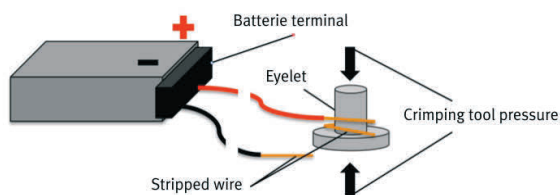

Figure 4: Winding the stripped ends of the battery connector wires around the eyelets and crimping
- Wind the stripped ends of the wires from the battery connector around the eyelets and crimp the eyelets with the crimping tool (see figure 4). Snap the battery connector onto the battery and secure it to the base with a Velcro® strip.
- Connect the battery (see figures 4 and 5) and secure it to the base with a Velcro® strip.